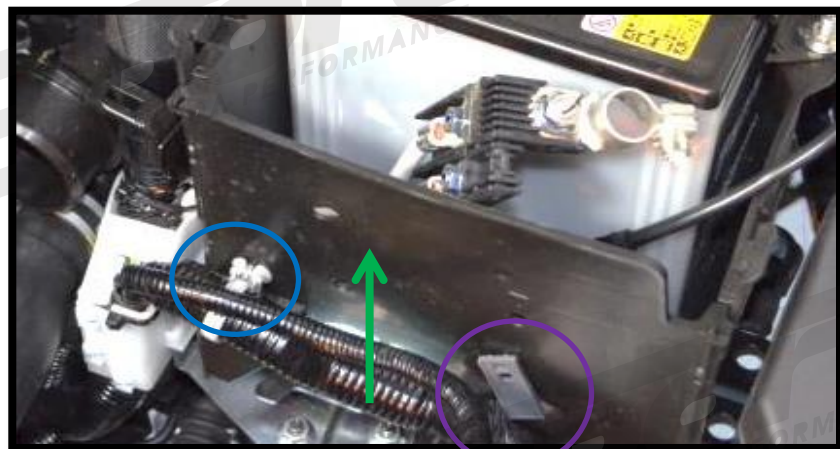

Figure 2c
e) **Remove the front battery box panel.** Remove the MAF wiring harness clip (blue circle Figure 2c), and negative battery cable clip (purple circle Figure 2c), from the front battery box panel using needle nose pliers to compress the clips on the inside of the battery box. Then slide the panel upwards and remove it (green arrow in Figure 2c).
- j) Install the ECU connectors** and latch the cam locks to seat the connectors into the ECU. Install the ECU cover over the connectors (shown in Figure 2c).